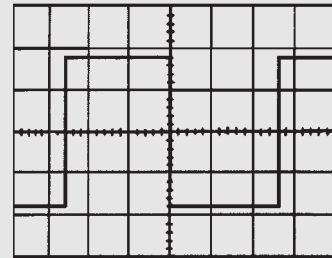

Figure 10.17
**Problem 7.** For the oscilloscope square voltage waveform shown in Fig. 10.17 determine (a) the
(In Figs. 10.17 to 10.20 assume that the squares shown are  $1 \text{ cm}$  by  $1 \text{ cm}$ )